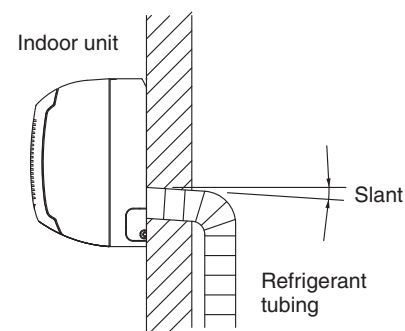

Fig. 3-169
- a) The drain hose should be slanted downward to the outside. (Fig. 3-169)